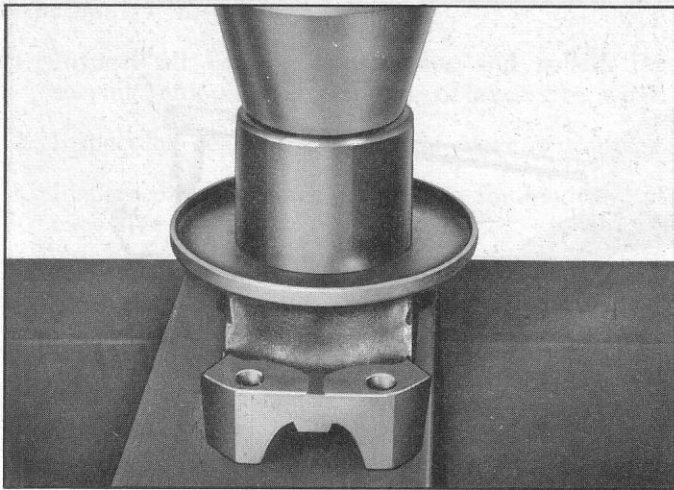

Fig. 17—Installing New Oil Deflector
7. If old deflector is damaged, install new deflector using suitable pipe or J-5749 (fig. 17).